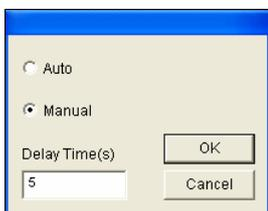

Figure 1-85
- **Live disable alarm:** Choose whether to invoke the warning message when Scene Change is detected. Click the [...] button beside to display Figure 1-85.